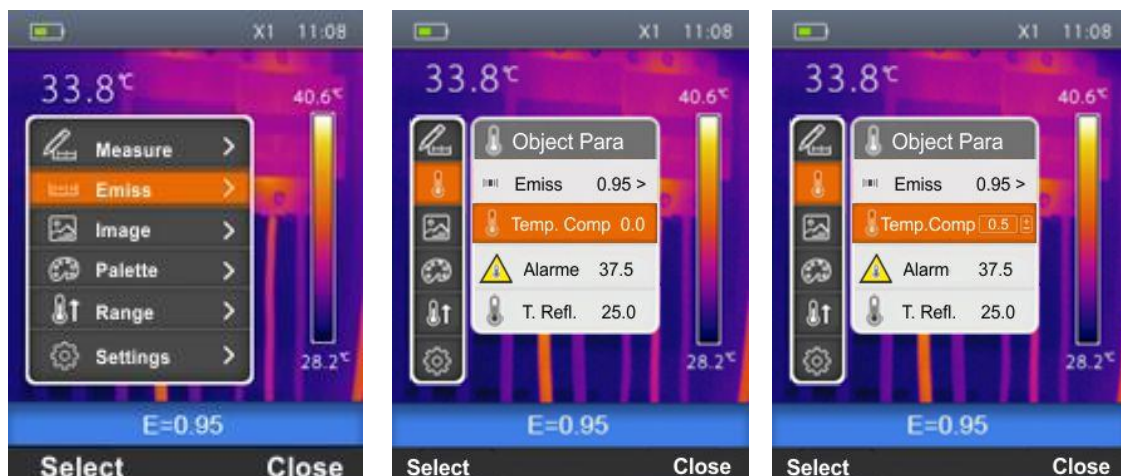

Fig. 19: Setting temperature compensation on the instrument
1. Select the item "Emiss" with the keys $\oplus$ or $\ominus$ and press the key $\Rightarrow$. The screen Fig. 19 – Central part is shown on the display.
2. Use the keys $\oplus$ or $\ominus$ to select the item “Temp.Comp” and press the key “Select”. The screen Fig. 19 – Right side is shown on the display